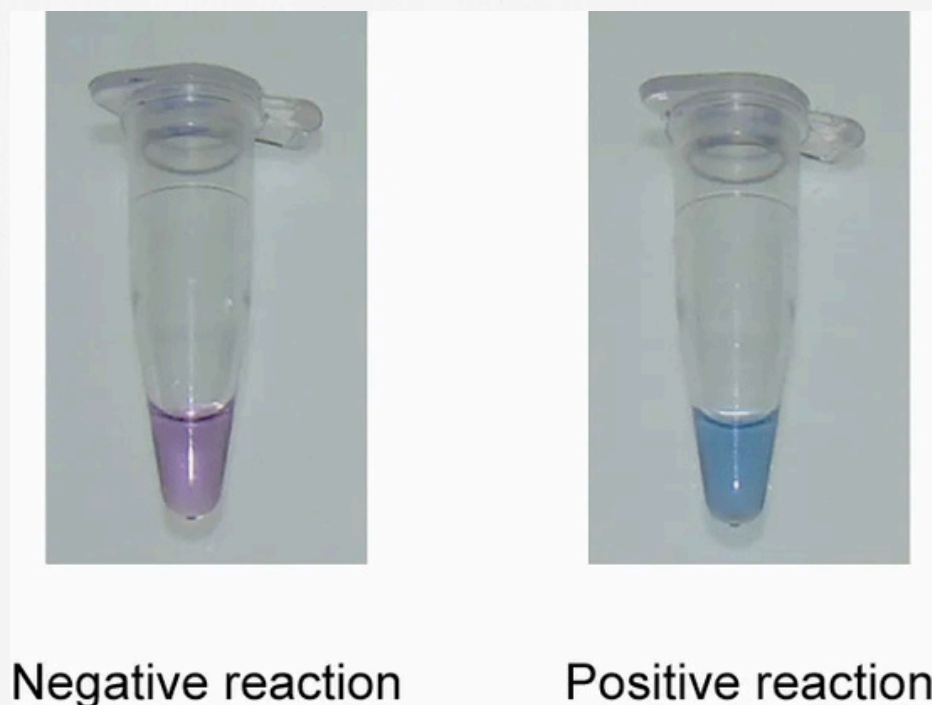

Figure 1
Result Interpretation: After the 61°C reaction for 60 minutes, immediately remove the reaction tubes and place them at room temperature. Using a white paper or a white foam box (preferably white foam) as the background, the detection result can be determined by the color change of the reaction solution. If the solution is blue-green, it indicates mycoplasma contamination; if it is purple-red, it indicates no mycoplasma contamination (as shown in Figure 1).
4. Different batches of products, as well as factors such as photography, may cause the colors of the positive and negative controls after the reaction to slightly differ from those shown in Figure 1 of this manual (for example, the negative control color may appear light red or purple-red). As long as there is a significant color difference between the positive and negative controls after the reaction, the reaction is considered successful.